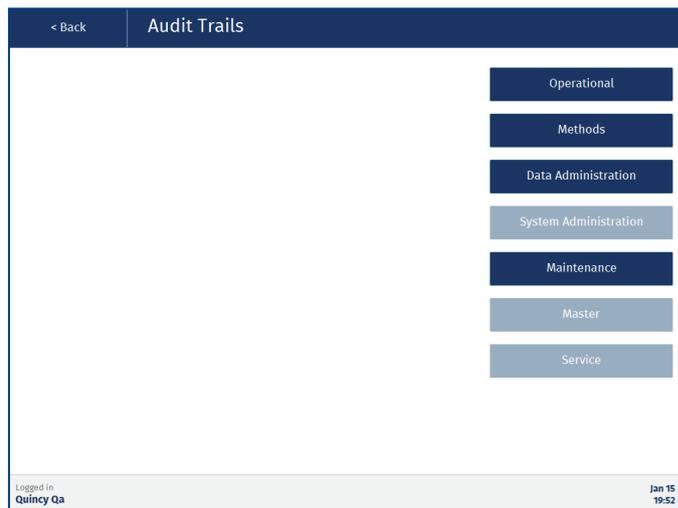
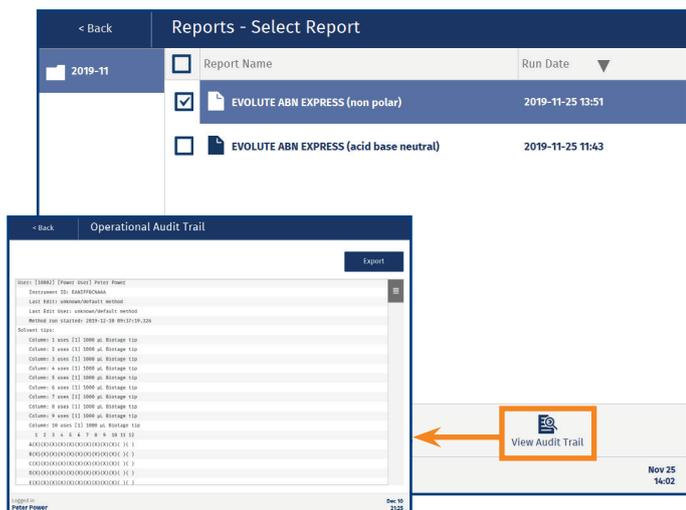

Figure 86. The Audit Trails view when logged in as a QA/QC user. For user access rights, see Table 1 on page 11.
Figure 87. There is one operational audit trail for each run.
The audit trails can be accessed from the **Audit Trails** view (see Figure 86). For user access rights, see Table 1 on page 11.
All audit trails can be accessed from the **Audit Trails** view (see Figure 86). The audit trails, except for the master, can also be accessed by pressing  in the lower right corner in the corresponding view (see Figure 87).
2. Open the audit trail and press **Export** (see Figure 87).